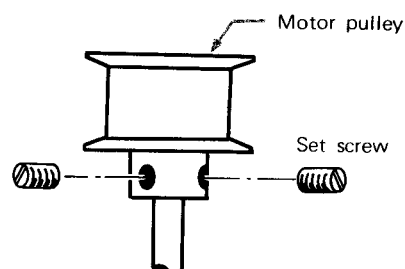

Fig. 2-5 Motor pulley removal
3. Remove the motor pulley from the motor shaft by loosening the two set screws shown in Fig. 2-5.